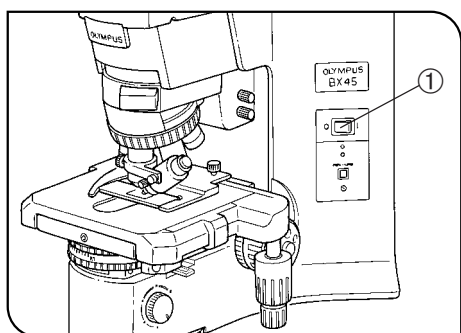

Fig. 1
4. To avoid potential shock hazards and burns when replacing the light bulb, set the main switch ① to “○” (OFF) then disconnect the power cord from the wall outlet in advance. Whenever you replace the bulb during use or right after use, allow the lamp socket ② and bulb to cool before touching. (Figs 1 & 2)